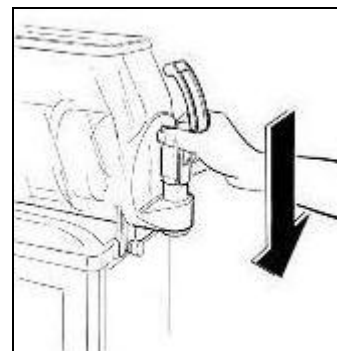

Fig. 26
- Re-insert the tap (fig.26) spreading Vaseline on the o-rings to facilitate sliding the tap in its seat until completely inserted.